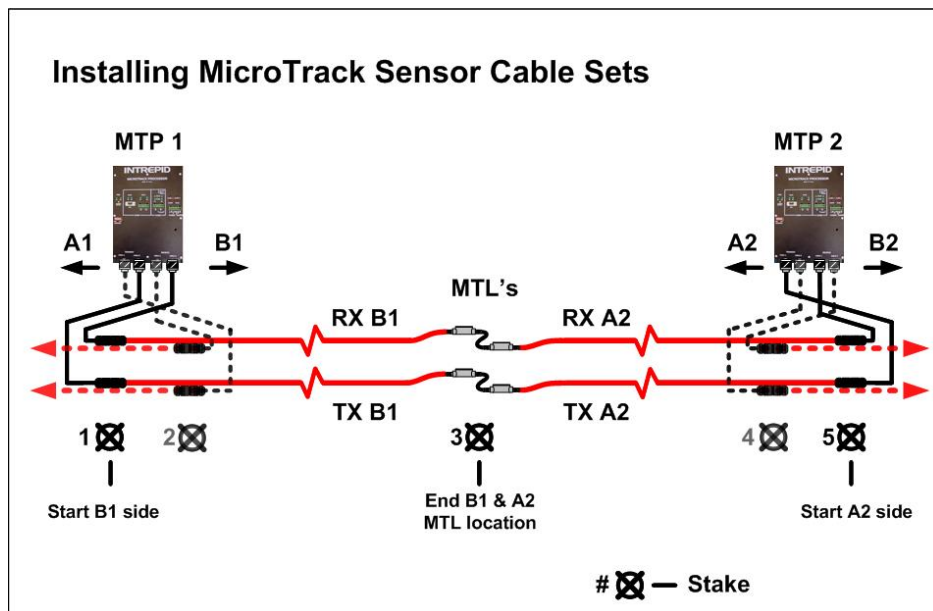

Figure 5.15 MicroTrack Links Installed at the End of Two Sensor Cable Sets
4. Repeat steps in Section 5.4.1 above and this section to install the MTL's on the other two sensor cable assemblies: TXB1 and TXA2. The completed installation is shown below in Figure 5.15.